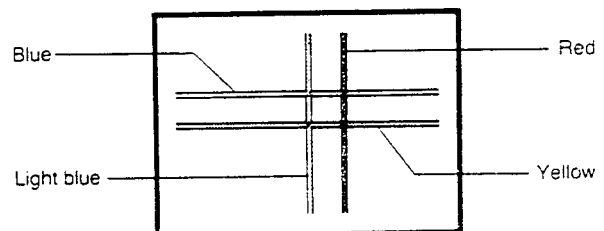

Fig. 2 Horizontal and vertical misalignment
- 4 If you see separate colored lines (Fig. 2 to 4), use the R/B, ◀, ▶, ▲, and ▼ keys on the remote control unit to make the red and blue lines disappear into the other lines. Pressed (red or blue) alternates. Pressing the ◀ key moves the vertical line to the left, while pressing the ▶ key moves the vertical line to the right. Pressing the ▲ key moves the horizontal line upward, while pressing the ▼ key moves the horizontal line downward. In figure 2, for example, press the R/B key to control the red line, and then press the ◀ key until the red line converges. Press the R/B key again to control the blue line, and then press the ▼ key until the blue line converges. Convergence is correct when all three colors (red, green, and blue) converge, producing single white lines.